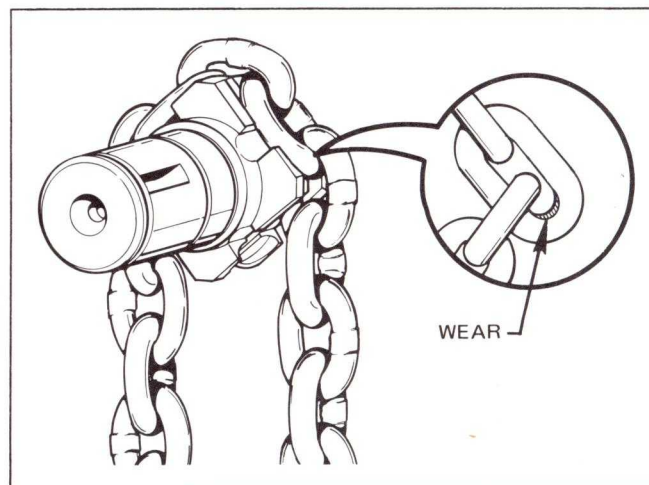
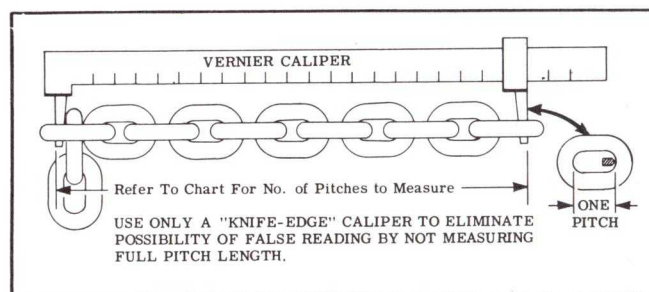

Figure 5-1. Check Chain Wear at Bearing Surfaces Between Links.
Figure 5-2. Checking Coil Chain Using Vernier Caliper
(1) Operate hoist under load and observe operation of chain over sprocket in both directions of chain travel. Chain should feed smoothly into and away from the sprocket. If chain binds, jumps or is noisy, first see that it is clean and properly lubricated. If trouble persists, inspect chain as outlined below, depending on type of chain.
(2) **Coil Type Load Chain.** Clean chain for inspection. Examine visually for gouges, nicks, weld splatter, corrosion or distorted links. Slacken chain and check bearing surfaces between links for wear, figure 5-1. Greatest wear will often occur at sprocket at high or low point of lift, particularly when hoist is subjected to repetitive lifting cycles. Case hardness of chain is about .015" deep. Chain must be replaced before the case is worn thru. Also check chain for elongation using a vernier caliper (Figure 5-2). Select an unworn, unstretched section of chain (usually at slack or tail end) and measure and record the length over the number of chain links (pitches) indicated in figure 5-2. Measure and record the same length of a worn section in the load side of the chain. Obtain the amount of wear by subtracting the measurement of the unworn section from the measurement of the worn section. If the result (amount of wear) is greater than the amount specified in the "ALLOWABLE CHAIN WEAR" table, the chain has elongated beyond the maximum allowable length and must be replaced. Chain with excessively pitted, corroded, nicked, gouged, twisted or worn links should be replaced using only factory approved chain. Never weld or attempt to repair coil chain.